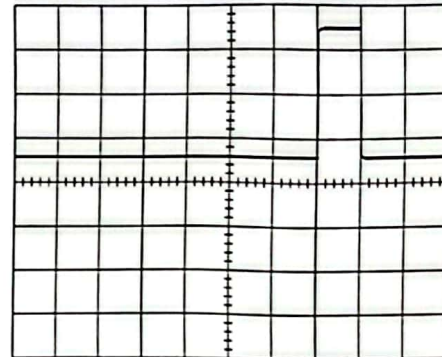

Figure 4
9. Adjust the scope's *Variable Sweep* control until the *FS* signal looks like the signal in Figure 4.